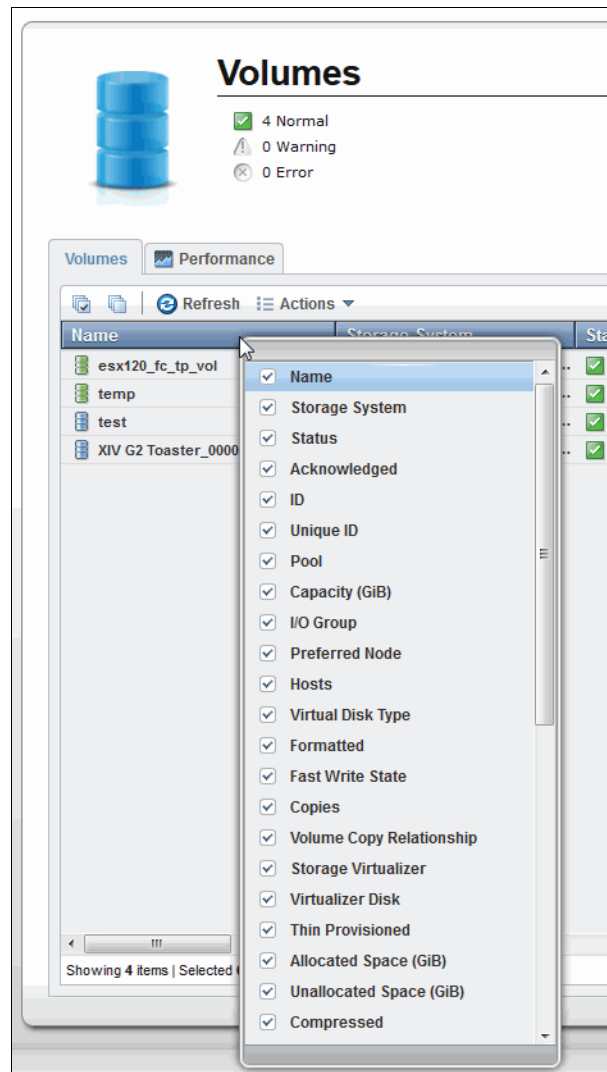

Figure 13-15 Modifying Volumes column headings
2. Right-click any of the column headings to modify the columns that are displayed, as shown in Figure 13-15.